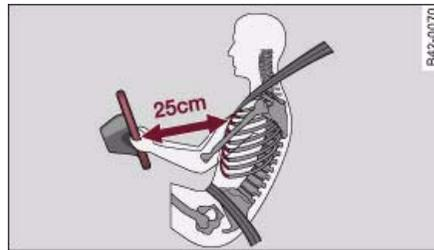

Fig. 82 Minimum distance between driver and steering wheel
- Adjust the steering wheel so there is a distance of at least 25 cm between the steering wheel and your breastbone ⇒ fig. 82.
- Adjust the driver's seat so there is a distance of at least 25 cm between your breastbone and the centre of the steering wheel ⇒ fig. 82. The airbag system will not be able to protect you properly if you sit closer than 25 cm.